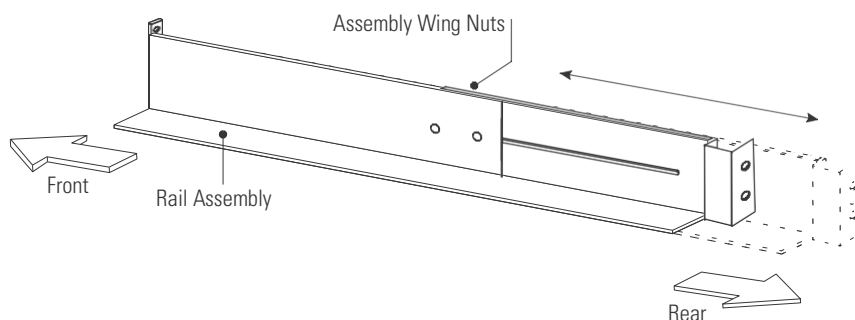

Figure 31. Adjusting the Rail Depth
1. Loosen the assembly wing nuts on both rail assemblies and adjust the rail size for the depth of your rack (see Figure 31).